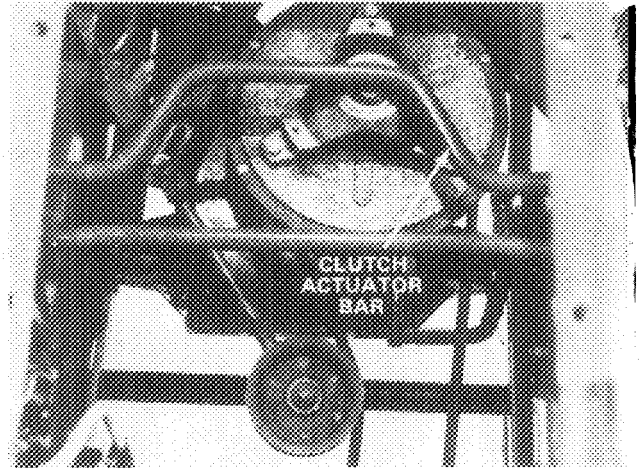

Figure 34
7. Slide the belt between the top of the traction clutch assembly and the clutch actuator bar (Fig. 34).